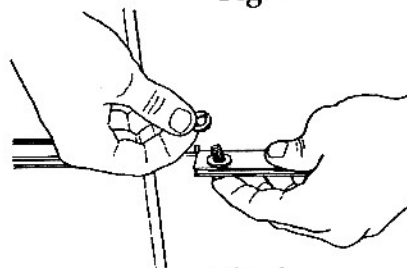

Fig. 8
12. Place a split lock washer (27) on the bolt, as shown in Fig. 8.